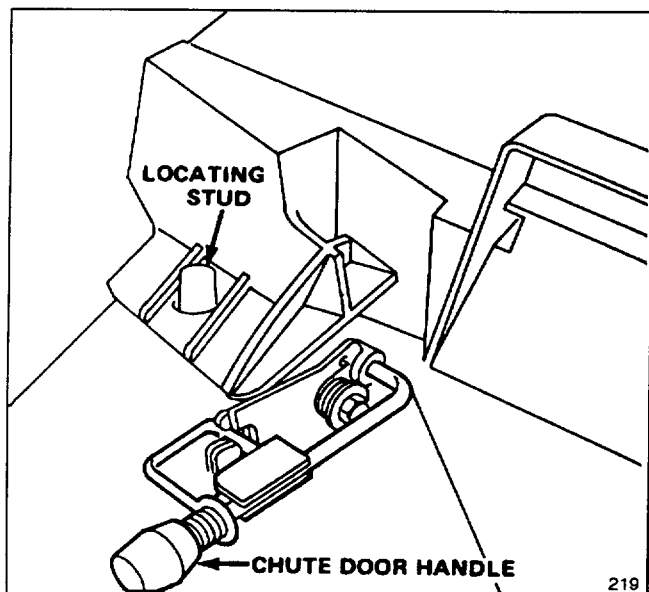

Figure 10
2. Assure chute door handle is fully forward and lockout lever is released into latch (Fig. 10).
3. **INSTALLING BAG**—Slide hole in bag frame onto retaining collar on housing (Fig. 10) and set rear of bag frame onto support rod on handle.
5. **EMPTYING BAG**—Stop engine and wait for blade to stop. Move chute door handle forward until it locks in the latch (Fig. 10). Grasp handle at front and rear of bag and lift bag off mower. Gradually tip bag forward to empty clippings.